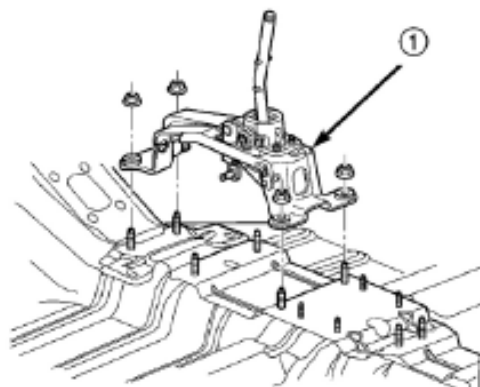

Figure 3-155 Disassembly/Assembly of shift bracket assembly
(6) Screw off the 4 plain screw caps for transmission assembly and the floor and remove the shifting support assembly from the vehicle (Figure 3-155).
- (1) Mount the shifting support assembly on the floor (Figure 3-155). Place the 4 screw caps at tightening torque 12Nm (105 in. lbs.).